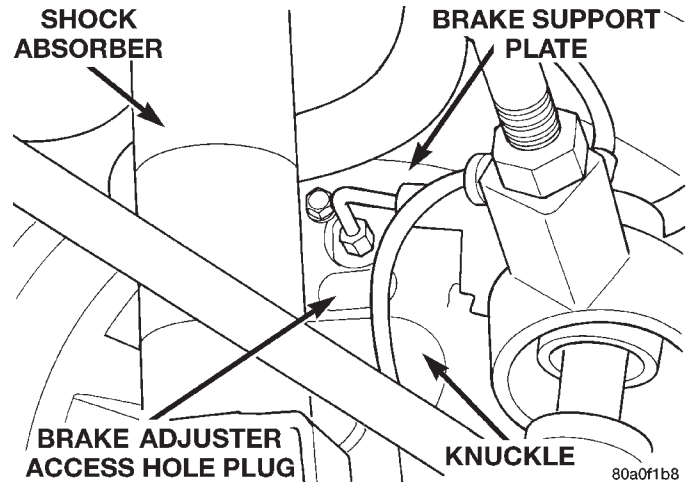

Fig. 56 Automatic Adjuster Access Hole Plug
(1) Remove the rubber plug (Fig. 56) from the brake support plate.